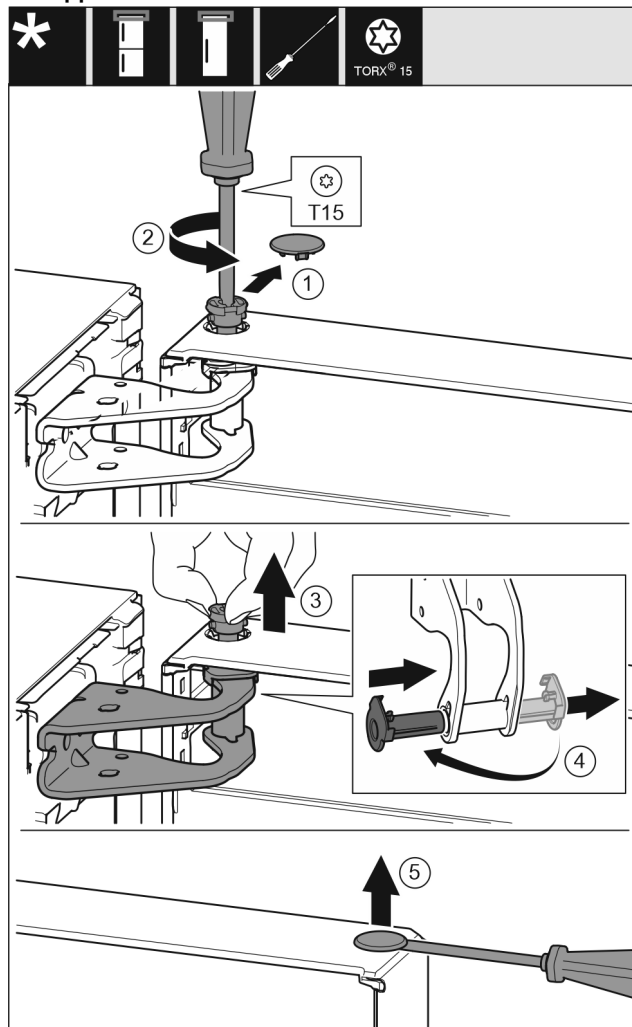

Fig. 5
- Carefully remove the protective cover. Fig. 5 (1)
- Undo the bolt a little with a T15 screwdriver. Fig. 5 (2)
- Hold the door and remove the bolts with your fingers. Fig. 5 (3)
- Pull the bearing bush out of the guide. Insert from the other side and latch into place. Fig. 5 (4)
- Carefully lift the plugs out of the door bearing bush with a slotted screwdriver and pull them out. Fig. 5 (5)